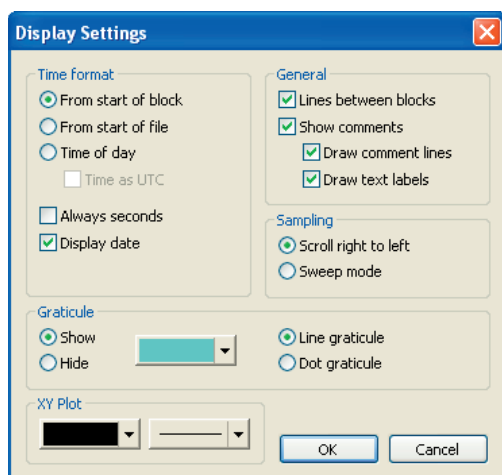

Figure 20. Display Settings Dialog Box
1. Select Display Settings... under the Setup menu. The Display Settings dialog box will open (Figure 20).